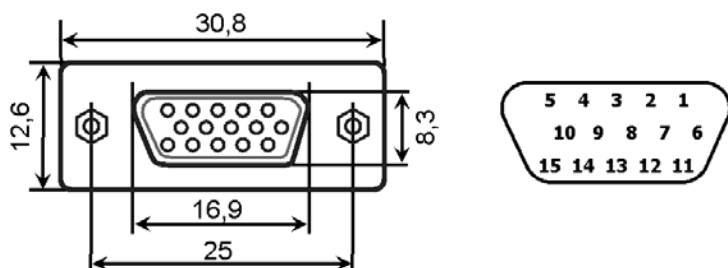

Figure 5. Stepper motor connector: dimensions and pinout
- This 15 pin D-Sub (female) connector is used for connection of 8SMC1-USBhF device to stepper motor. All additional wiring (limit switches, emergency limit switch, revolution sensor and corresponding power supply) is included in this connector too. Dimensions of stepper motor connector see on Figure 5. For more information see 2.2.2.